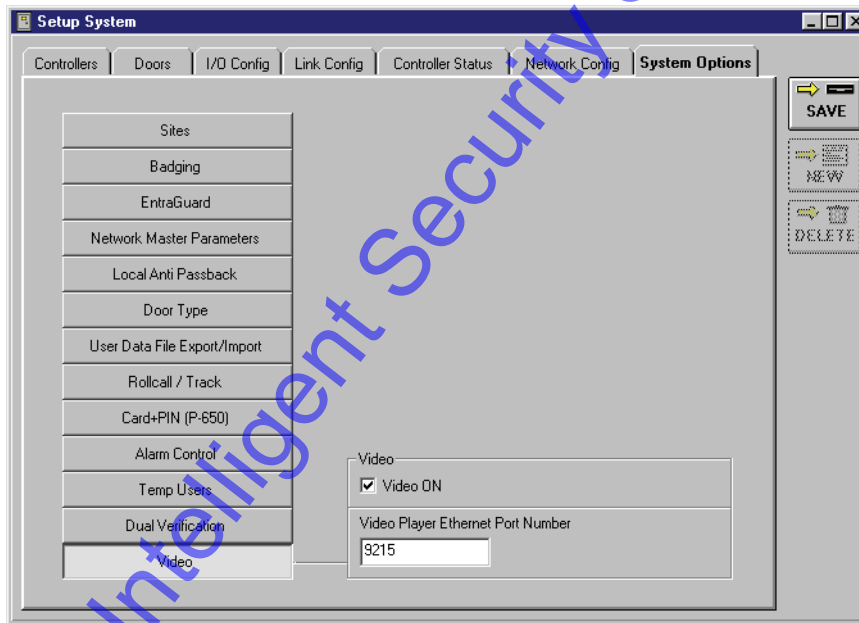

Figure 15-4: System Options Tab - Video Enabled with Assigned Port Number
5. The port number 9215 should now be visible inside the Video Player Ethernet Port Number box (see Figure 15-4).